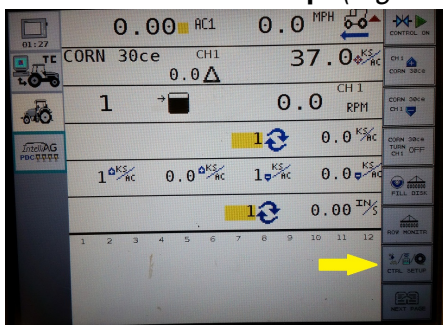

Figure 25
Step 2. Select **Control Setup**. (Figure 25)